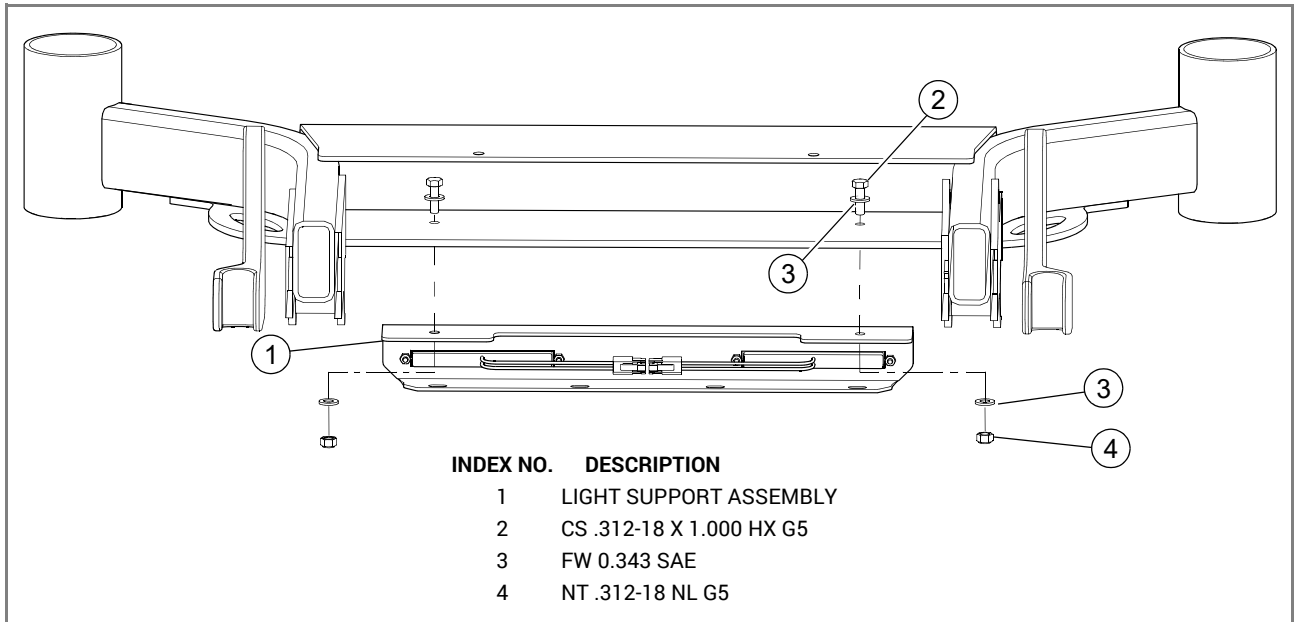

FIG. 2
**3. Mount the light bracket assembly to the frame using the hardware shown. FIG. 2**